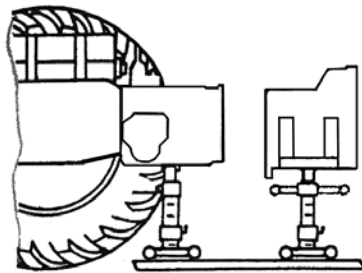

Figure 4.5
o) bring under gear box (GB) body screwed support P 7010-00 (or identical to it) (Figure 4.5) until it fully touches GB body;
p) put central support P-7118-00 on screwed support P 7010-00 and bring it under clutch coupling body until it fully touches body surface, (Figure 4.5);
q) unscrew nine bolts (M20) 4 and nut 3, see (Figure 4.1), for fastening body of CC to GB, and take aside CC body using screwed support P 7010-00 (Figure 4.5) or move it by means of lifting mechanism.